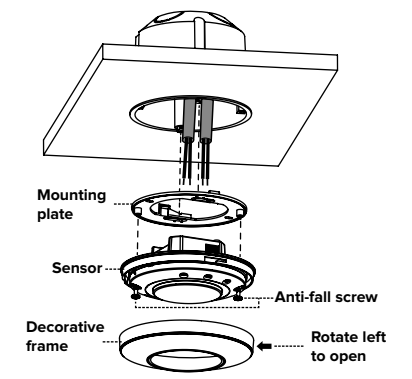

FIG. 7
3. Screw the mounting plate on the sensor under the main distribution point and attach it to the housing of the sensor by means of the two anti-fall screws (fig. 7).